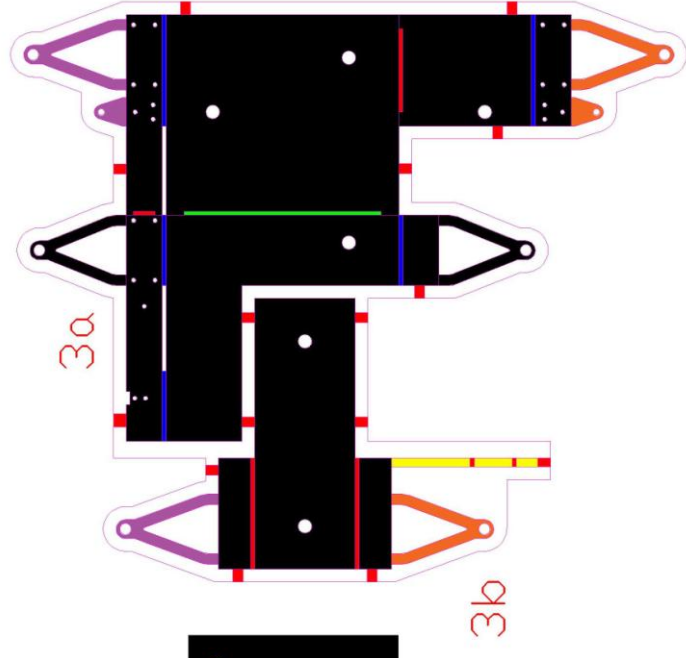

Fig. 2
If you want to make two unfitted wagons from kit C.05A then make sure that the holes in the vees on the main fitted lever brake vees (3a) can accept 0.8mm wire then remove from the fret and cut along the half etched line which is marked in green in Fig.2. This will provide you with another set of unfitted lever brake vees (2). Fold up and reinforced with solder if you wish.
Firstly make sure that the holes in the main fitted lever brake vees (3a) and inner fitted lever brake vees (3b) can accept 0.8mm wire. Then, referring to the colourful Fig. 2 below, mark on the fret the vees that are needed for your chosen brakegear then remove the unwanted ones with a piercing saw. Fig. 2 is arranged as the fret is when looking at it from the side with the half etched writing on it. To summarise which vees you will need:
There are safety loops attached to the inner fitted vees (3b) (these were the parts marked in yellow in Fig. 2) which can be folded over the brake shaft linkage now that it is in place